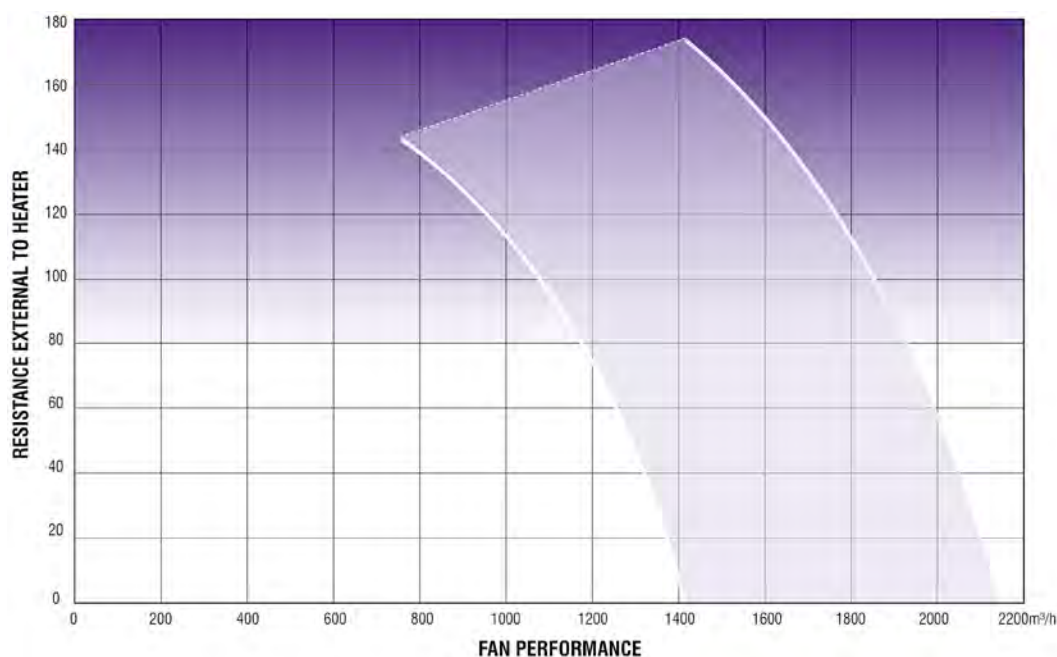

FIGURE 13 FAN PERFORMANCE GRAPH
- 15.2.2 With the heat generator operating in the maximum rate condition check the operational gas pressure at the inlet gas pressure test point complies with the requirements. See figure 13.